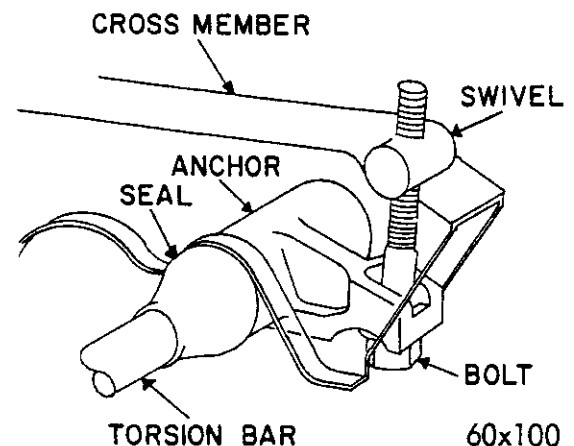

Fig. 5—Torsion Bar Adjustment Bolt
(6) Adjust, if necessary, by turning the torsion bar anchor bolt clockwise to increase the height and counter-clockwise to decrease the height (Fig. 5). If it is necessary to adjust the anchor bolts, measure the torque required to move the bolt clockwise. If it requires over 200 foot-pounds, replace the anchor adjusting bolt.
(7) After adjusting, jounce the car and read both gauges even though only one side may have been adjusted.
(1) Place a jack under the center of the front cross-member and raise the vehicle off the floor, so the front suspension is in full rebound, (under no load).
(2) Release the load from the torsion bar by backing off the anchor adjusting bolts (Fig 5). Remove the bolt and swivel and discard.